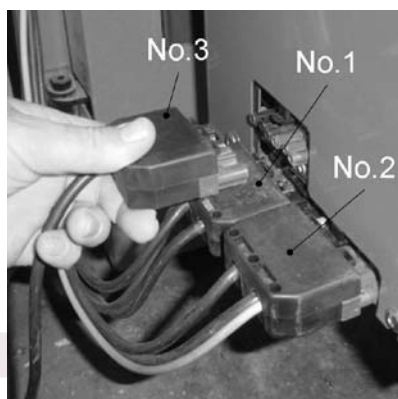

Figure 8-4: Auger plug connection
5. Fit the 6-way plug (No.3) from the pellet feed auger motor into the upper connection on the left side of the burner. Refer to Figure 8-4. Ensure that the plug is fully pushed home until the small catch it clicks into place.